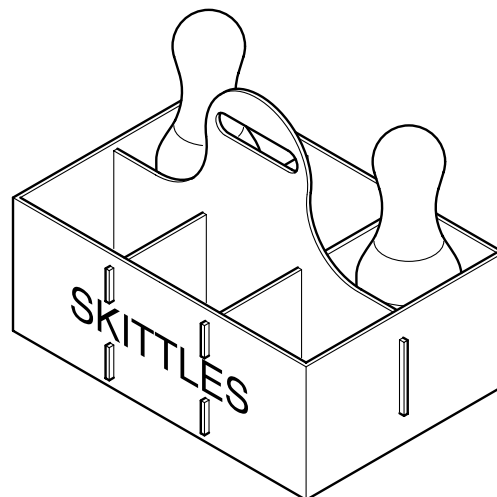

Fig. 2
- 2 Fig. 2 shows a children's skittle carrier.